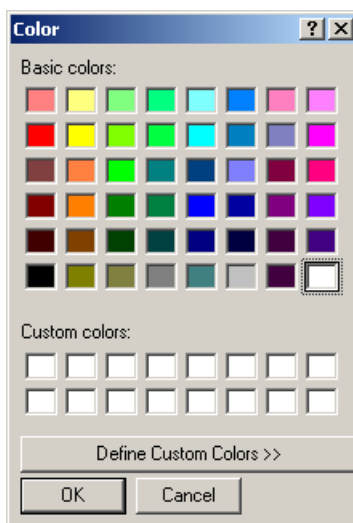

Figure 4.24: The Color Palette
1. From the **Settings > Select Colors** menu item, choose the display element you want to change. The color palette is displayed (Figure 4.24).